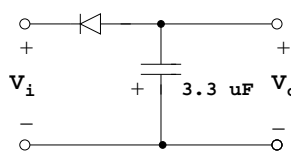

Figure 5.
9. Keep the clamped capacitor circuit and build the rectifier (Figure 5). Measure and explain the output of the rectifier, when the input is a 4 V p-p sine from the signal generator. Next use the output of the clamped capacitor as an input to the rectifier of Figure 5. Sketch the total circuit. Measure and explain the output. What would you call this circuit?